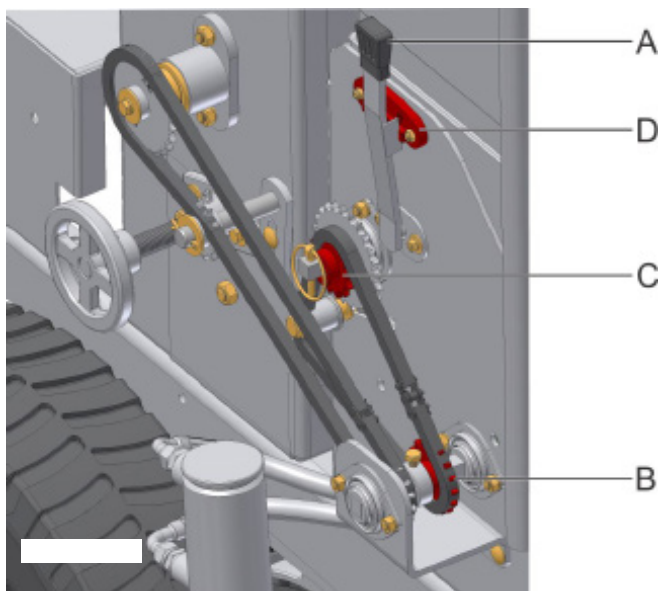
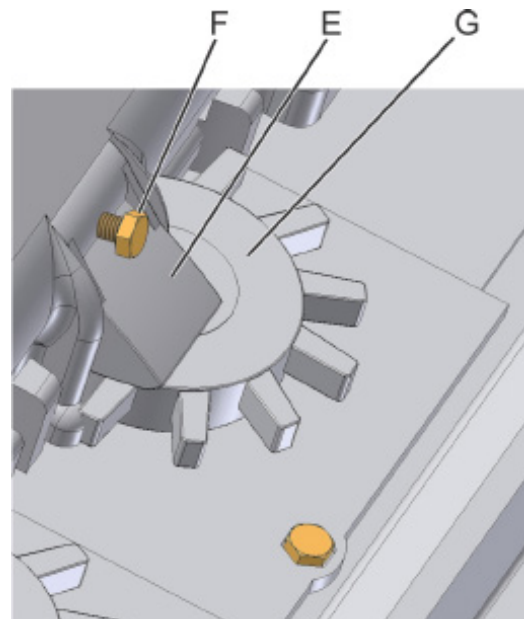

fig. 22
fig. 23
The adjustment of the quantity of fertilizer in Kg/ha is executed through the regulating levers (A) (fig. 22) and the interchange of the drive cogwheels (B) and driven cogwheels (C), the fertilizer being moved through the rotor (G) (fig. 23).
- 1- Check at first if the regulators (E) (fig. 23) are free, and if they are not, release them, loosening the setscrews (F);
- 2- Position the regulating lever (A) (fig. 22) in the neutral position of the scale (D);
- 3- Press the regulator (E) with one hand and with the other fasten it by means of the screw (F), so that all the regulators have the same height related to the rotor;
- 5- Position the lever in position zero of the scale (D);